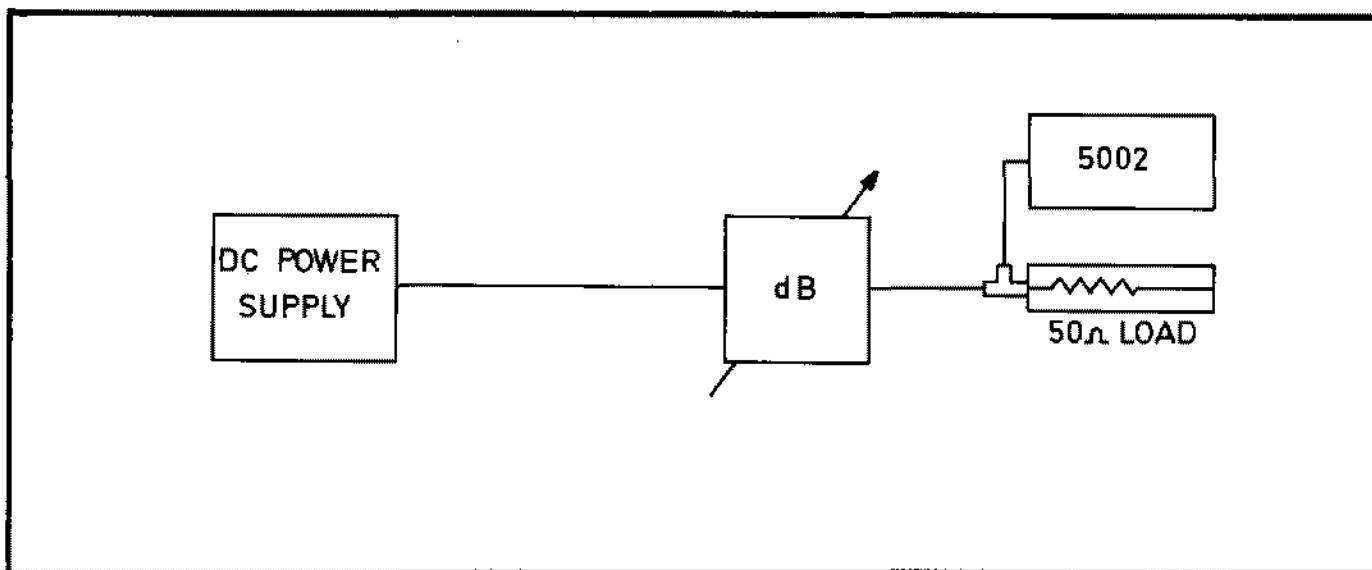

Fig. 6.10 DC Channel Attenuator Check
- 6.5.16.2 Connect the test equipment as shown in Fig. 6.10.